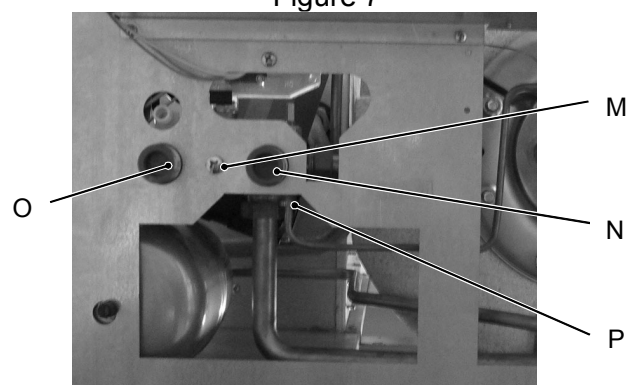

Figure 8
- 7) Unscrew the connections connected to N,O,P (Figure 8).
- 8) Loosen the screw M (Figure 8).